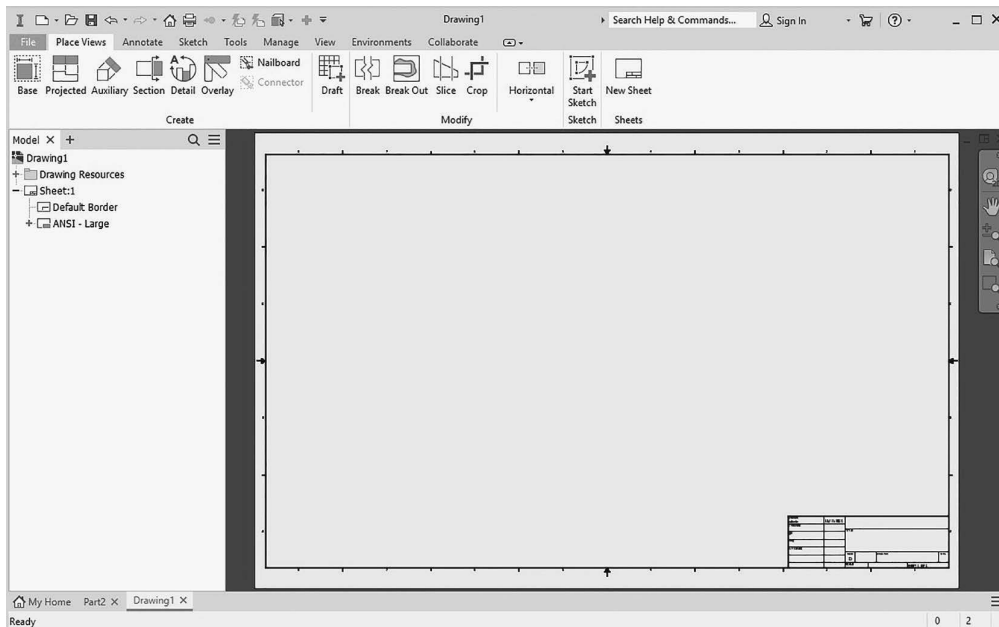

Figure 11
14. Your screen should look similar to Figure 11.